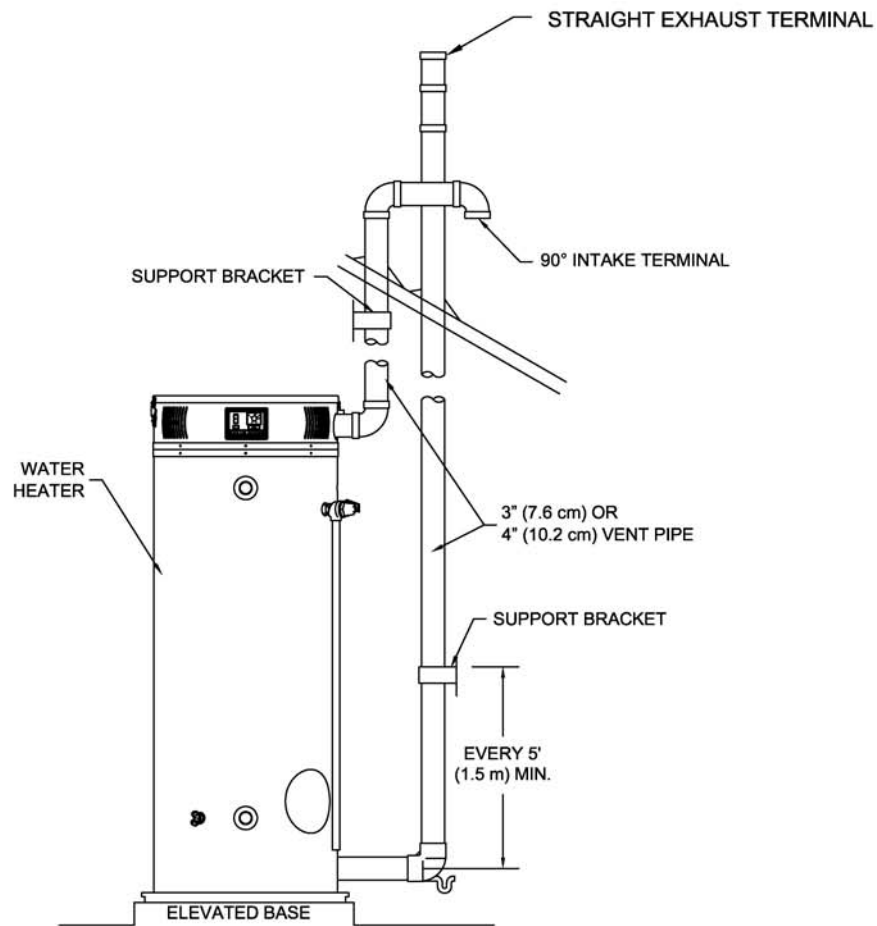

Figure 14. Typical Vertical Direct Vent System Installation
2. Install the exhaust vent and air intake plastic pipes as shown in Figure 14. Make sure that the installation meets the local codes and/or The National Fuel Gas Code ANSI Z223.1 (Latest Edition) or CGA/CAN B149 Installation Code.